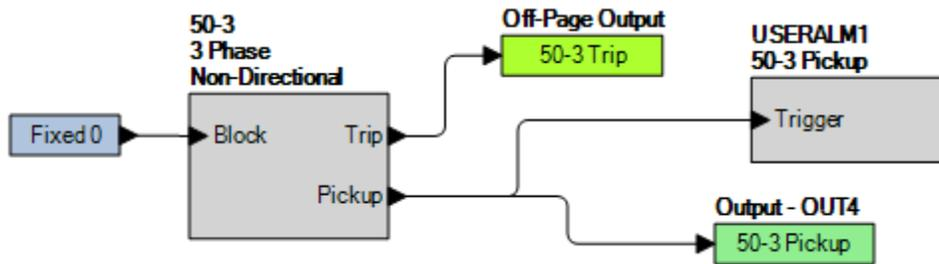

Figure 20. OUT4 and USERALM1 with User-Defined Labels
Step 15: Figure 20 shows the user-defined labels of OUT4 and USERALM1 that were named in Step 13 and Step 14.